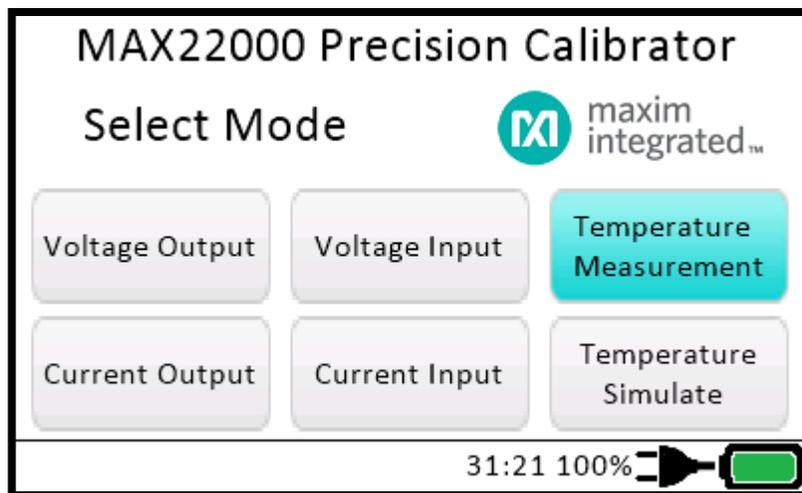

Figure 14. MAXREFDES183# Temperature Measurement mode.
18. To measure temperature (PT100/PT1000/TC Type K), click on the **Temperature Measurement** button (**Figure 14**).